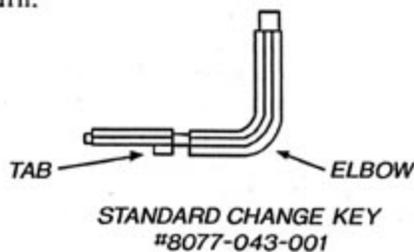

Figure 6
- Step 11 – Turn the change key ninety degrees counterclockwise, and pull it straight out of the padlock. Do not turn the key as it is being withdrawn, and make sure the dial does not move off "25." As soon as the reset key is withdrawn, insert the standard change key (tip first) into the padlock's change hole. The standard change key is properly seated when the tab on the key is fully inside the lock (Figure 6). Turn the key clockwise one-quarter turn.